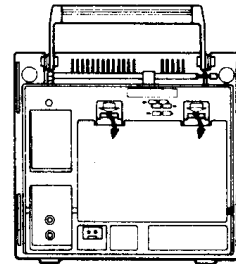

Fig. 4
1. Open the battery compartment lid located at the rear of the unit by pressing the two latches (Fig. 4).